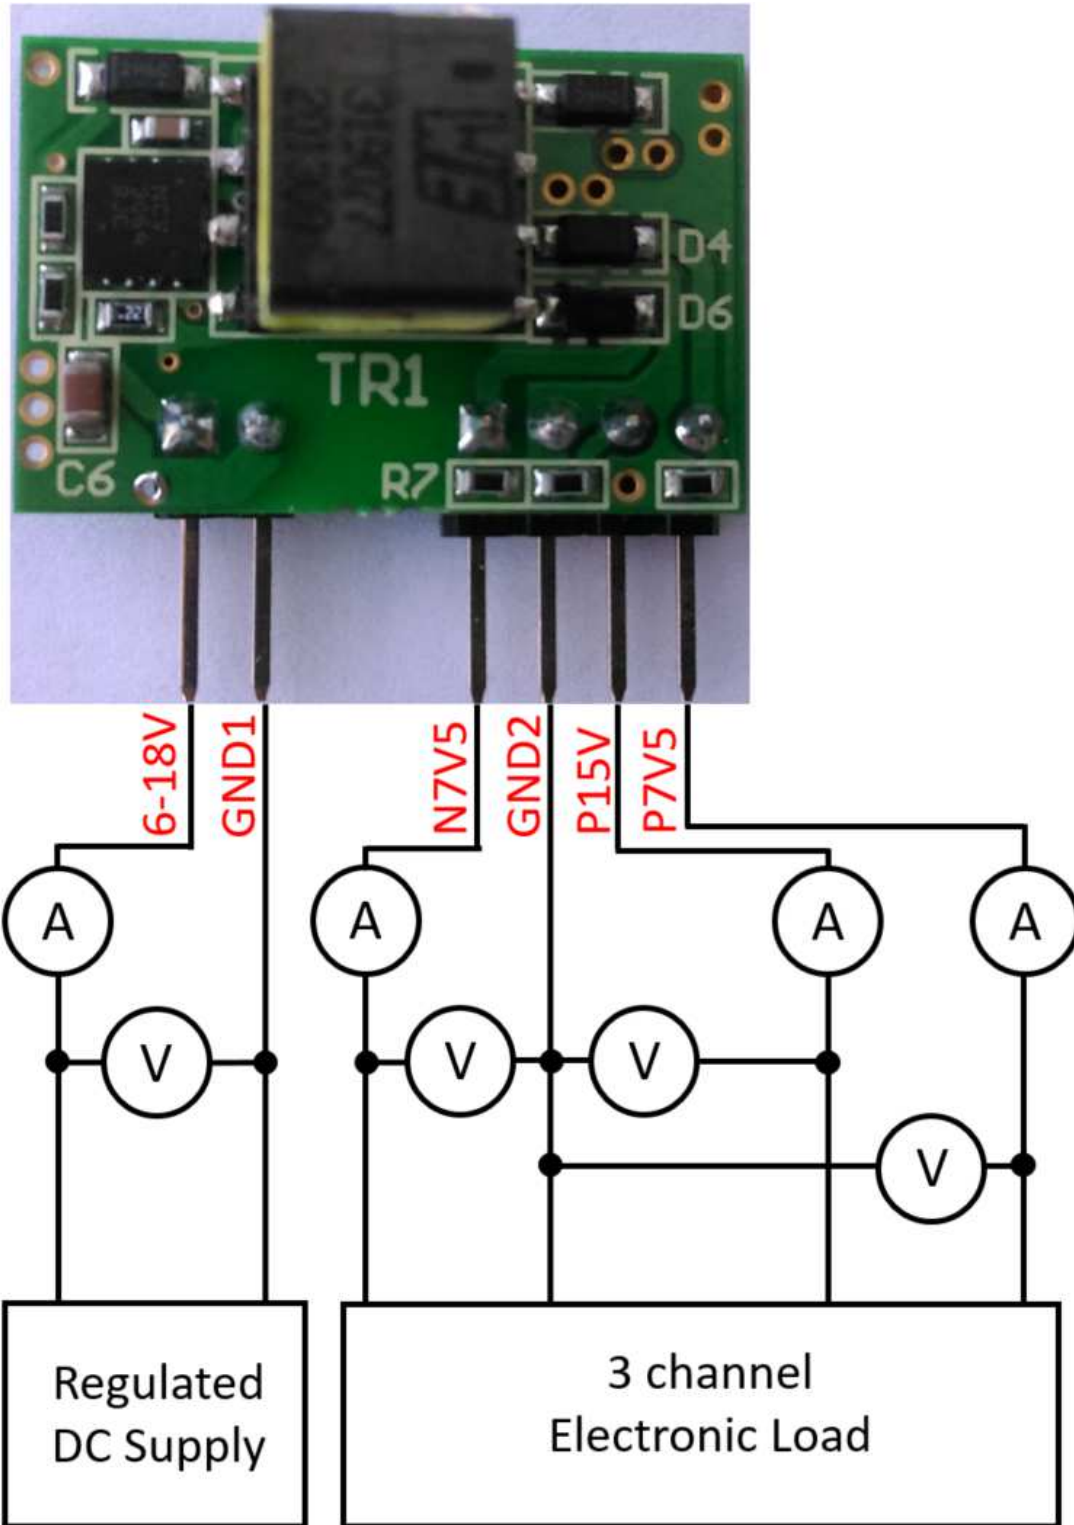

Figure 1. Test setup
- Connect the test setup as shown in the figure 1.